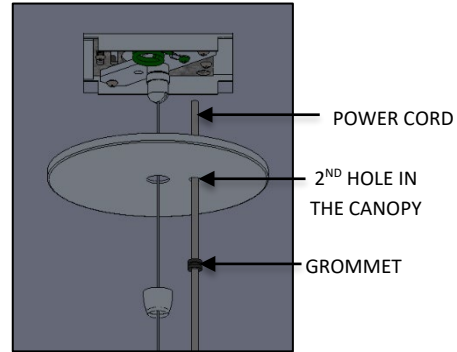

FIG. 30 – CORD INSTALLATION
8. Feed POWER CORD through GROMMET and then pass it through the 2ND hole provided in the CANOPY as shown below in FIG. 30.